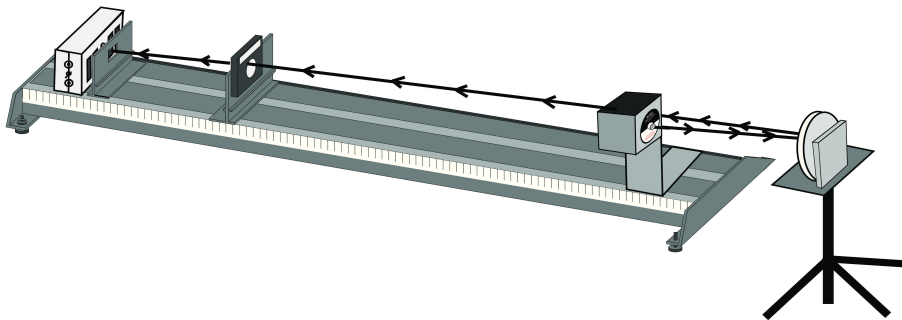

Figure 6: Aligning the lens, carriers, and receiver with the laser
3. Arrange the laser, lens, receiver and two component carriers on the laser alignment bench (Figure 6).